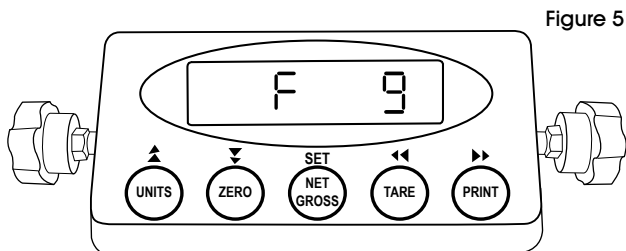

Figure 5
- Press PRINT or TARE and scroll to F9. Press ZERO. (See Figure 5)